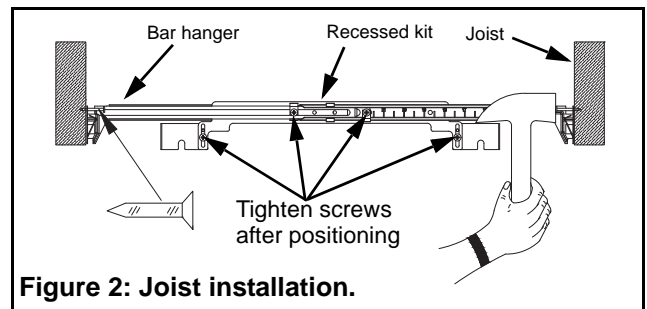

Figure 2: Joist installation.
1. Depending on your installation, install the bar hanger assembly as shown in figures 2 or 3.